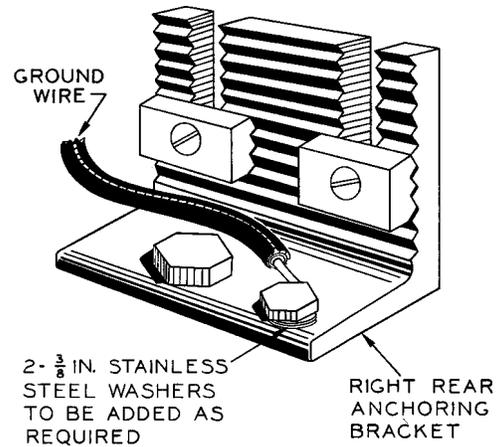

Fig. 1 — Terminating Ground Wire
- On booths not equipped with aluminum floors, connect as shown in Fig. 1.